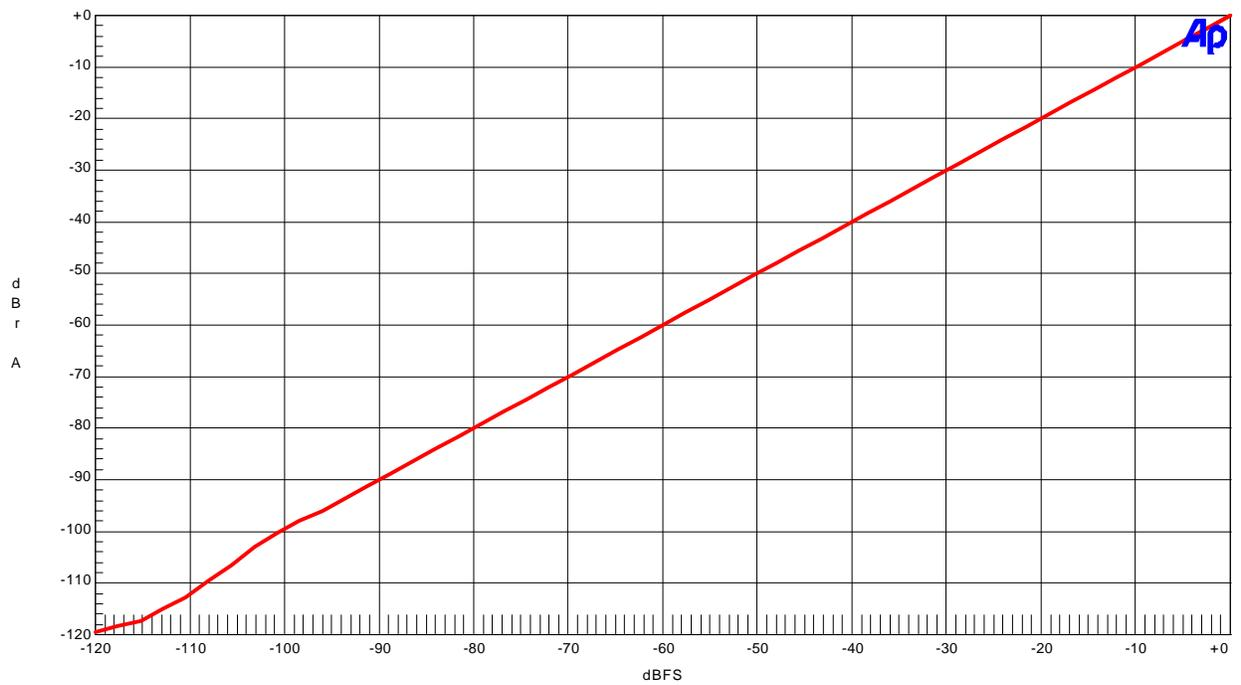

Figure22. Linearity (fin=1kHz)
- Figure22. Linearity (fin=1kHz)